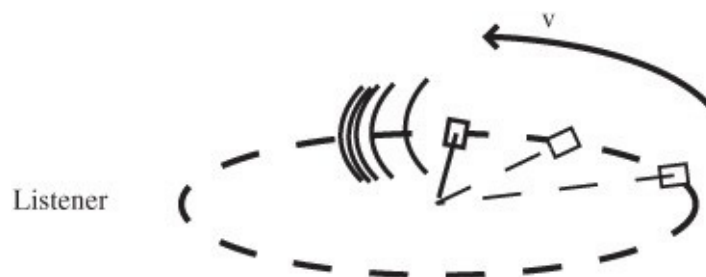

Figure 74-1 Sound varies in pitch as it moves with respect to the listener.
3. One person spins the buzzer in a circle, moving toward and away from the second person, as shown in Figure 74-1.